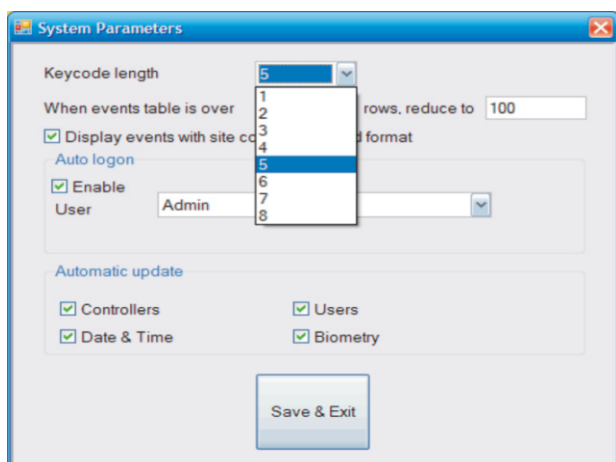

fig.3
5. Adjust the PIN Length. Go to Settings/ System parameters. For Keycode length select 5 digits. (fig3)